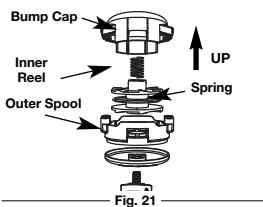

Fig. 21
- Remove the cap either by letting it pop off or a slight wiggle of the cap may be required and pull it off the outer spool (Fig. 21)
- Place the inner reel back into the outer spool (Fig. 21).